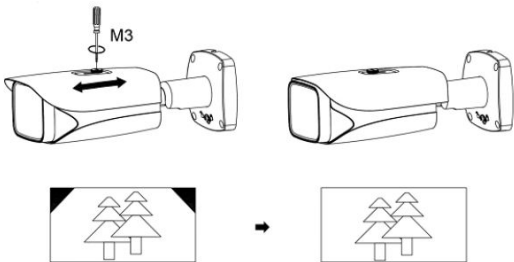

Figure 2-7
- Use the supplied wrench to loosen set screw and adjust shade. Tighten down Screw when finished. See Figure 2-7.